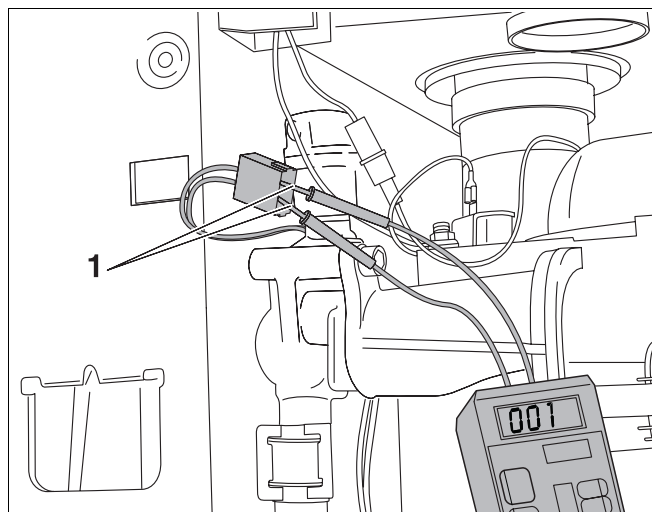

Fig. 67 600 - 11S / 19S / 24S / 24C:
- Measure resistance of sensor (fig. 67, item 1).